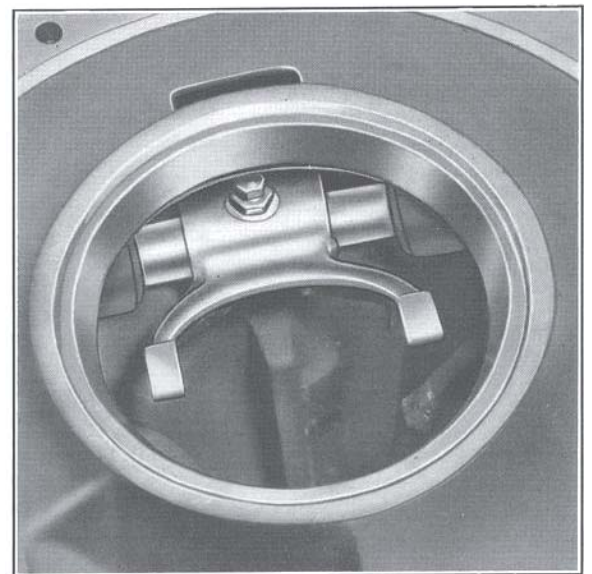

Fig. 15
- (i) Release the differential lock operating fork to cross-shaft locknut and screw (see Fig. 15) and withdraw the cross-shaft from the housing at the same time sliding the operating fork from the shaft.